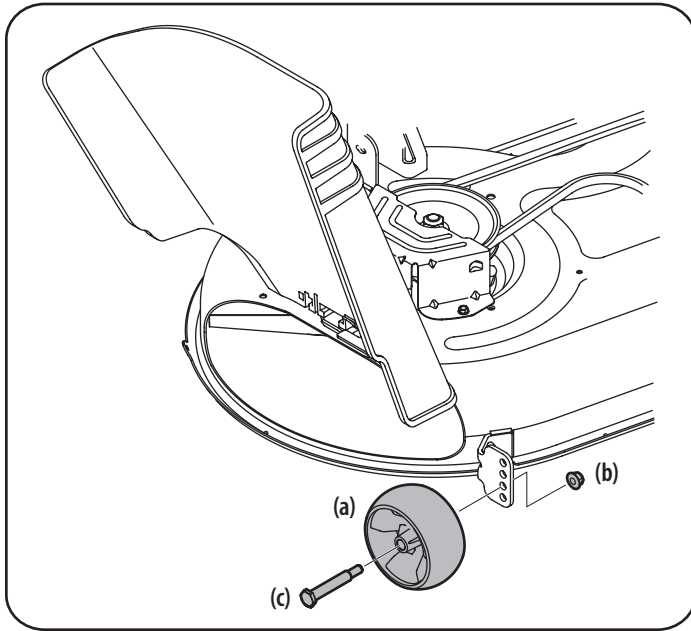

Figure 10
- Remove the front and rear deck gauge wheels (a) by removing the lock nuts (b) and shoulder screws (c) which secure them to the deck. See Figure 10.